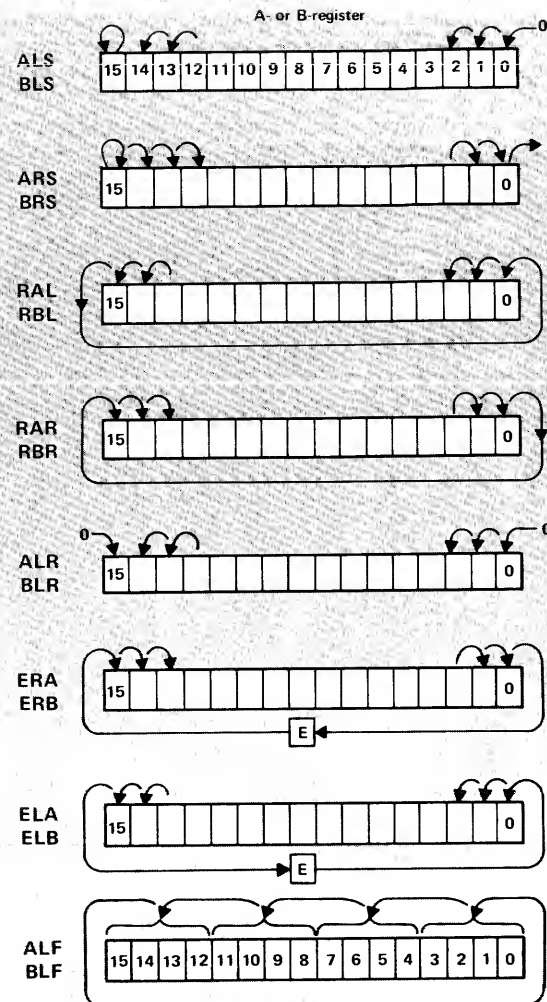

Figure 6. Shift and Rotate Functions
**SHIFT-ROTATE GROUP.** The 20 instructions of the shift-rotate group are defined first. A comparison of shift and rotate functions is given in figure 6. Rules for combining microinstructions are as follows. (Refer to table 7.)